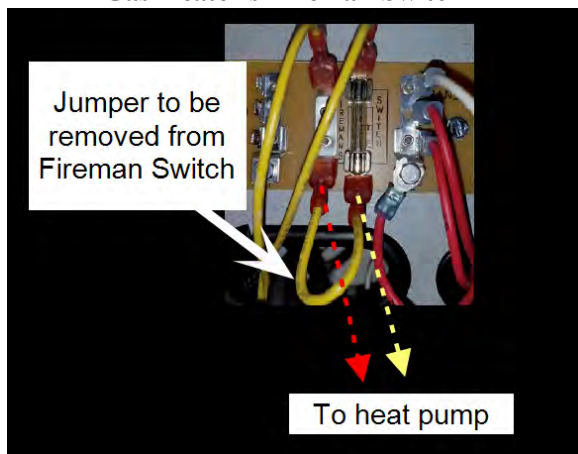

Figure 6
- Or replace the jumper wire from the Fireman's Switch on the gas heater with two wires leading to the heat pump. See Figure 6.